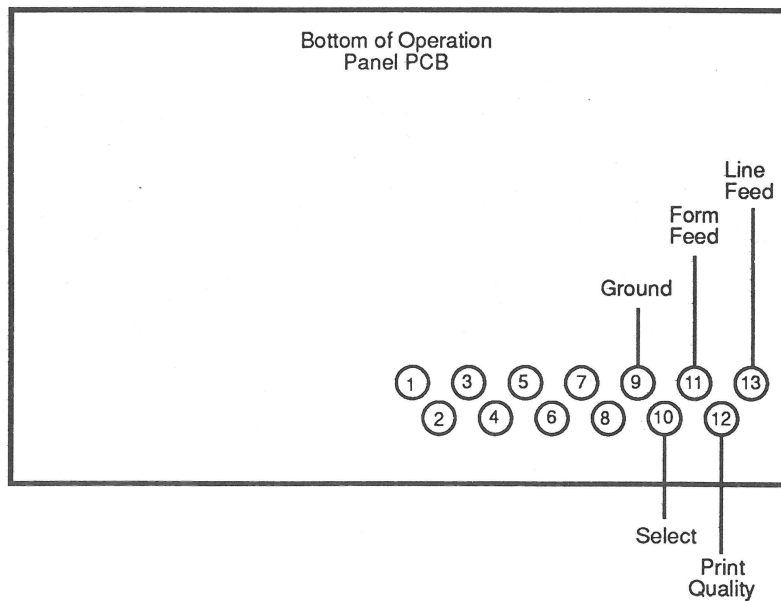

Figure 3-3
- d) Place the probes on pins 9 and 11, which are shown in **Figure 3-3**. The meter should indicate **open**.